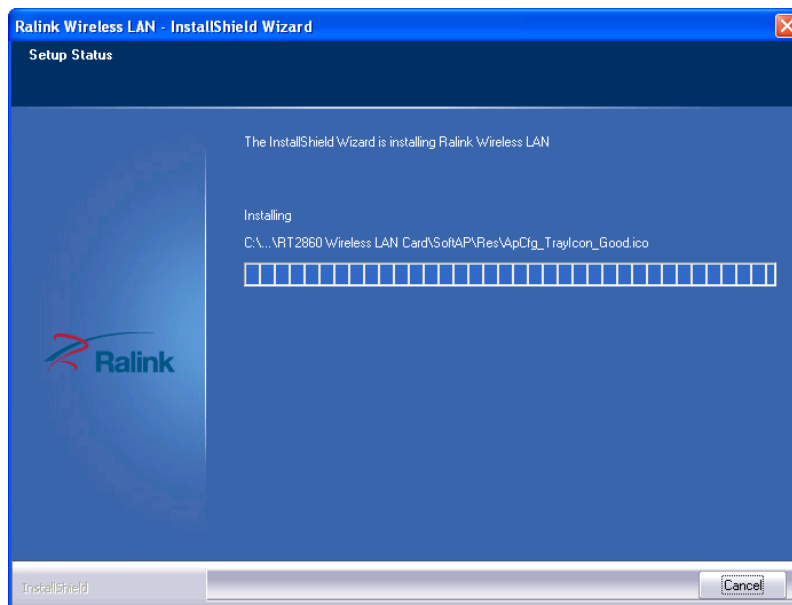

Figure 1-5: Setup Status
Step 11: The **Setup Status** screen in **Figure 1-5** appears and displays the progress of the installation.